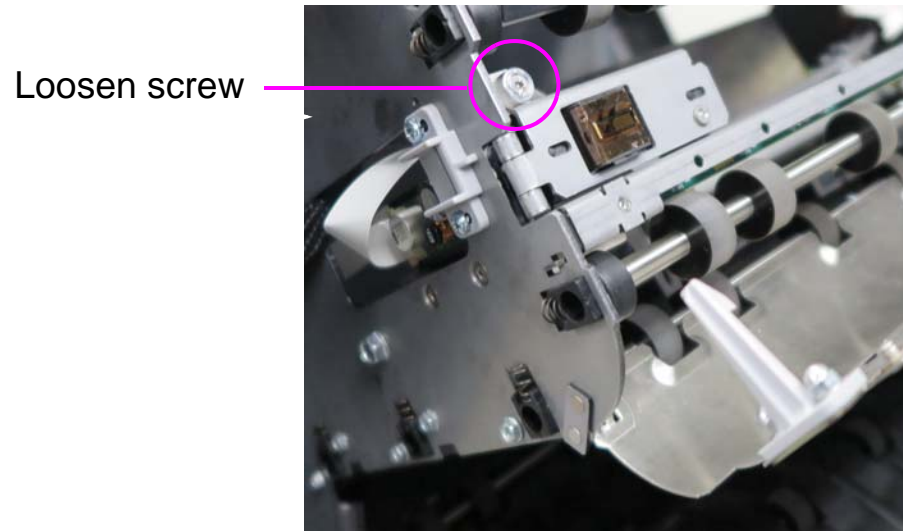

Figure 5-3: Screw location
3. Loosen the screw shown in Figure 5-3.